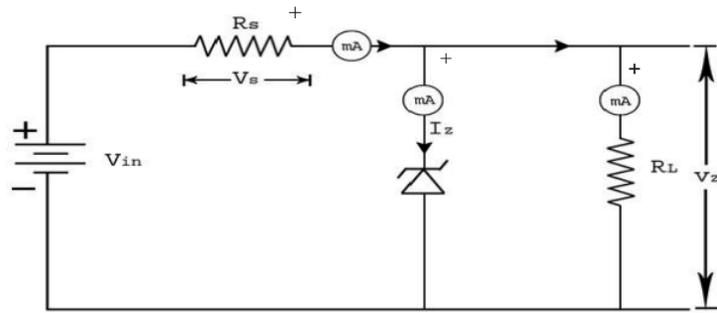

Figure 23.1: Zener diode Shunt Regulator
wide range of currents thus useful as a shunt voltage regulator. The purpose of a voltage regulator is to maintain a constant voltage across a load regardless of variations in the applied input voltage and variations in the load current. A typical Zener diode shunt regulator is shown in Figure 23.1. The resistor is selected so that when the input voltage is at V_{IN} (min) and the load current is at I_L (max) that the current through the Zener diode is at least I_z (min). Then for all other combinations of input voltage and load current the Zener diode conducts the excess current thus maintaining a constant voltage across the load. The Zener conducts the least current when the load current is the highest and it conducts the most current when the load current is the lowest.
1. Connect the circuit as in figure 23.1.